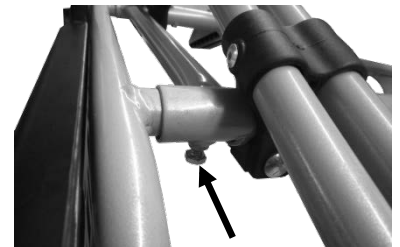

Figure 1: Screws of rack table
- Undo the two hexagonal screws (Figure 1) on the underside of the rear end of the rack table and remove fully. Put the screws to one side so that they will not be lost.